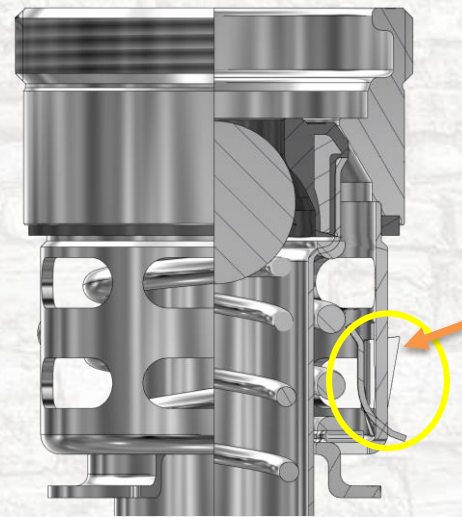

Fig. 2
- Threaded spears: Safety Clip (fig. 2)